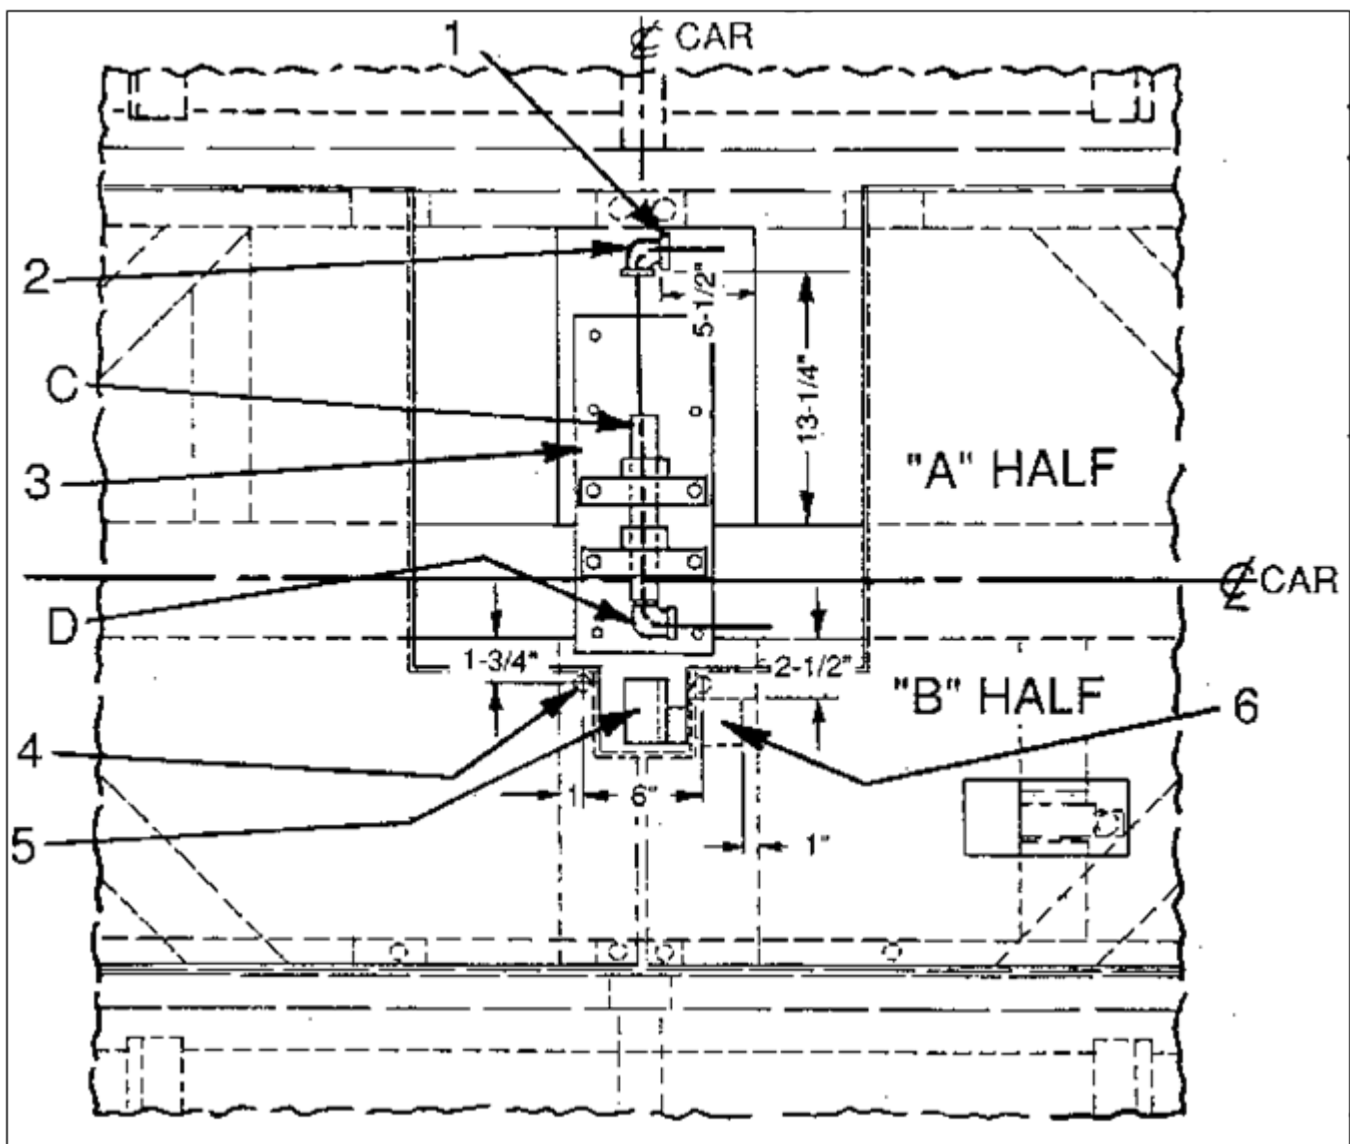
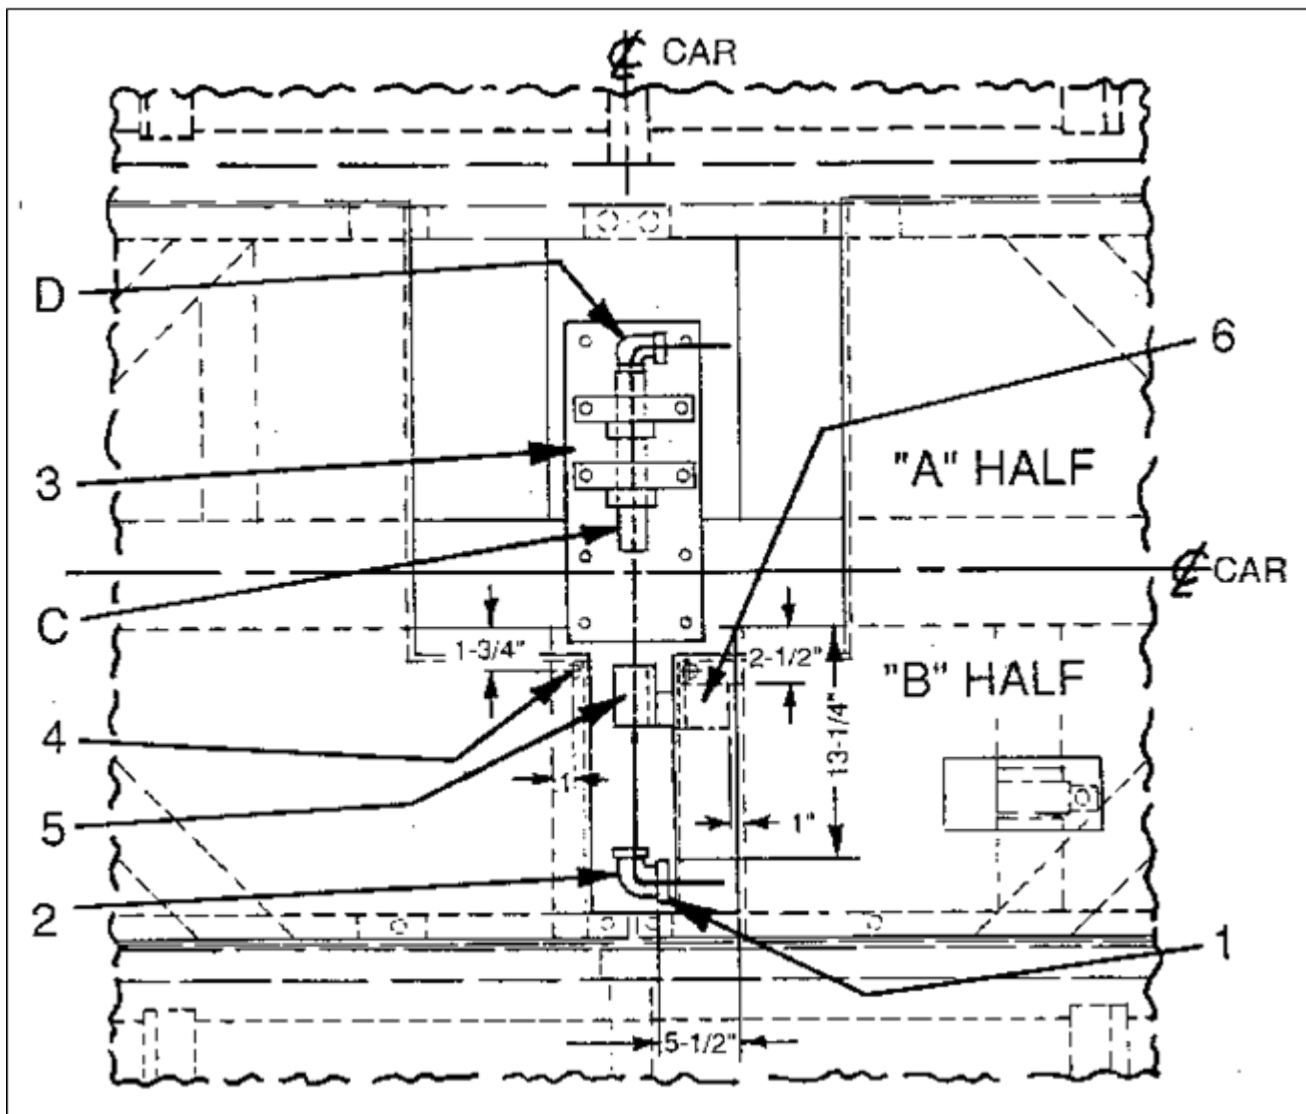

Figure 1 – Stationary anchor mounted in "A" half
Figure 2 – Stationary anchor mounted in "B" half
- 6) Refer to Fig. 1 page 1, and Fig. 2 page 2. If the crawler cable passover position at the centerline of the car is in the "A" half of the car, the stationary anchor (Keys 1 and 2 together) should be mounted in the "B" half. If the passover is mounted on the plate so that the tube end "C" faces the stationary anchor. Weld the stationary anchor block (No.. 436824 Key 1) 13-1/4" from the edge of the center frame on the appropriate half of the LSC-40 car. This method of positioning the parts is used to get the greatest length of cable between the rotating and stationary anchor points. This greater length allows less strain on the cables as it twists.
- 10) Weld pipe deck plates supports (No. 436821 Key 4) at positions indicated in Fig. 1 page 1.
- 14) Replace the deck plates on the LSC-40 car. Reworking of the deck plates may be necessary if the stationary anchor (No. 436824 Key 1, Fig. 2) is mounted on the "B" half of the car. Refer to Besser print No. 436825 for reworking details.